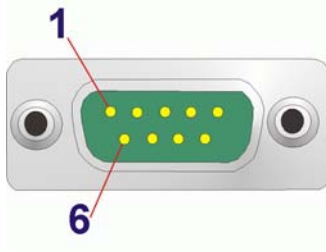

Figure 4-22: RS-232 Serial Port Pinout Locations
- CN Pinouts:** See **Table 4-23** and **Figure 4-22**